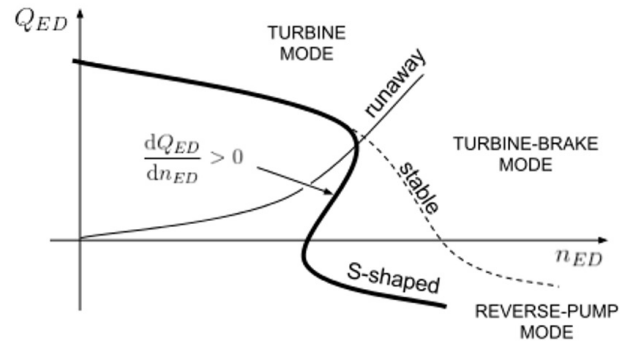

Figure 1: Q_{ED} vs n_{ED} characteristics.
An undesired phenomenon affecting pump-turbines is the so-called rotating-stall (RS). It could happen before synchronization, when stable runaway operation is needed in order to guide the machine up to the proper frequency and phase [10]. However, due to the violence of the flow and increased pressure fluctuations [11], this procedure can not be safely achieved. Sudden load rejection, and the intensification of structural vibrations are some of the symptoms with unwanted economic consequences. RS is associated with reversible turbomachines that exhibits unstable operation. fig. 1 shows a comprehensive representation of the characteristics in terms of dimensionless discharge (Q_{ED}) and rotational speed (n_{ED}) as described in the international standard IEC 60193 [12] and introduced in eq. (1) and eq. (2) as function of the impeller outler diameter D , the specific hydraulic energy of the machine E , Flow Q , and rotational speed n .